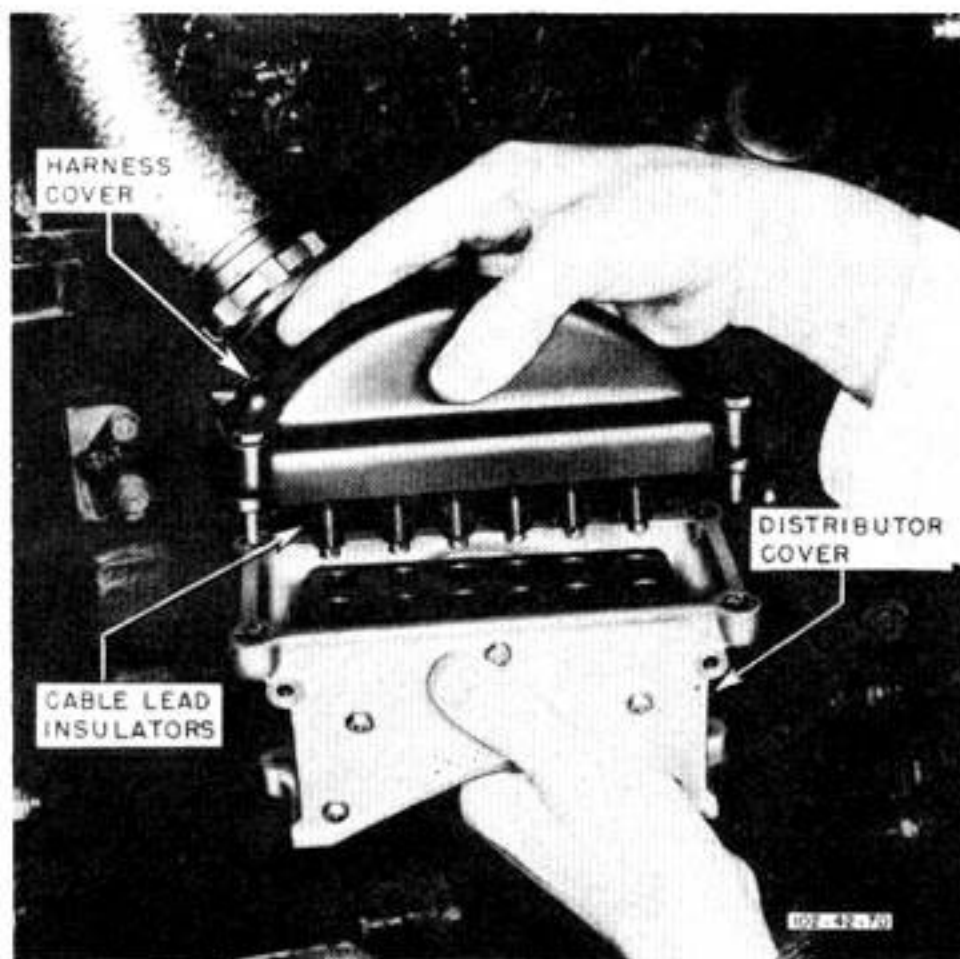

Figure 182—Separating Harness and Distributor Covers
d. Unscrew the four bolts holding the wiring harness connection cover to the magneto, the two bolts, and two bolts and nuts holding distributor cover; then remove as a unit as shown in figure 181. The harness and distributor covers may then be separated. (See figure 182.)